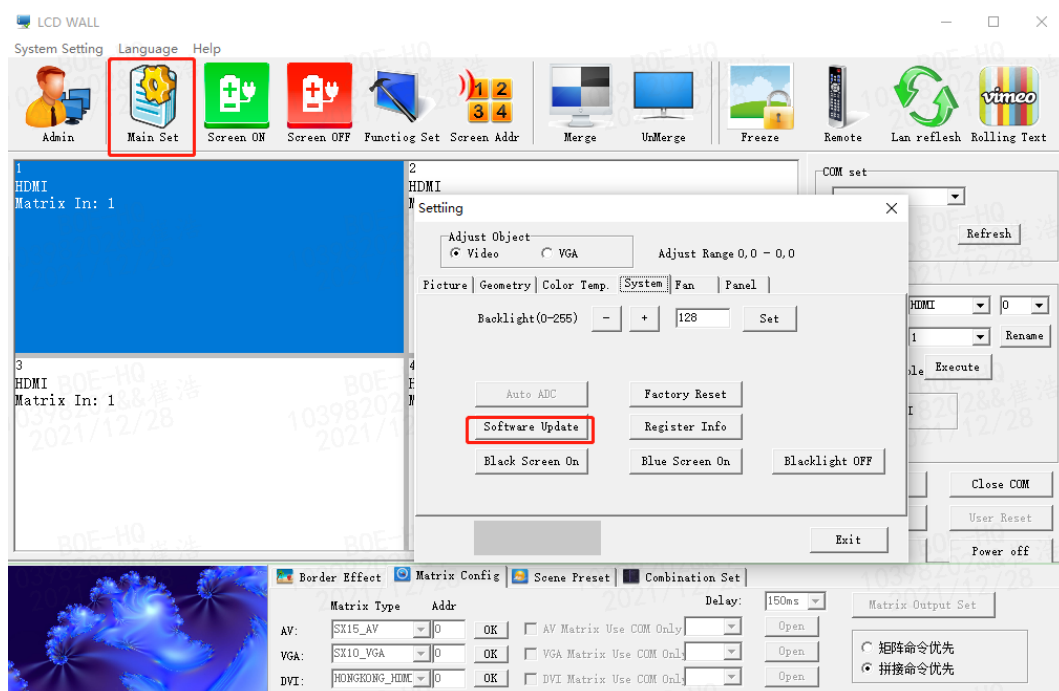

Fig. 21
3. As in Figure 21, click on the software upgrade, the screen will become blue, the progress of software update will be displayed in the upper right corner, and the power indicator will flash green/orange alternately, and the upgrade will restart automatically after completion.
Adjustment as shown in Figure 21, it is recommended to have a professional adjust